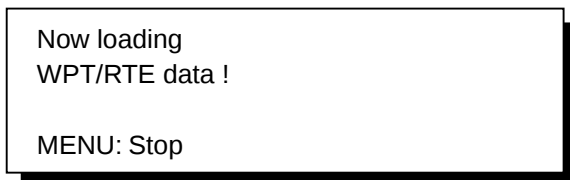

Figure 4-5
- 12) Press ▼ to select Start. The message shown in Figure 4-5 appears.